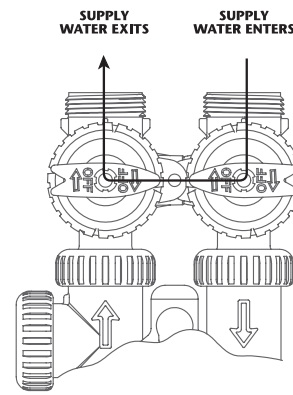

Figure 2
2. **Bypass Position:** The inlet and outlet handles point to the center of the bypass. The system is isolated from the water pressure in the plumbing system. Untreated water is supplied to the building (Fig. 2).
- After installation is complete, rotate bypass handles to bypass mode (*see Fig. 2 on page 2*).
1. With the softener in the bypass mode (**Fig. 2 on page 2**) and the control valve in normal operation where the display shows either the time of day or the gallons remaining: